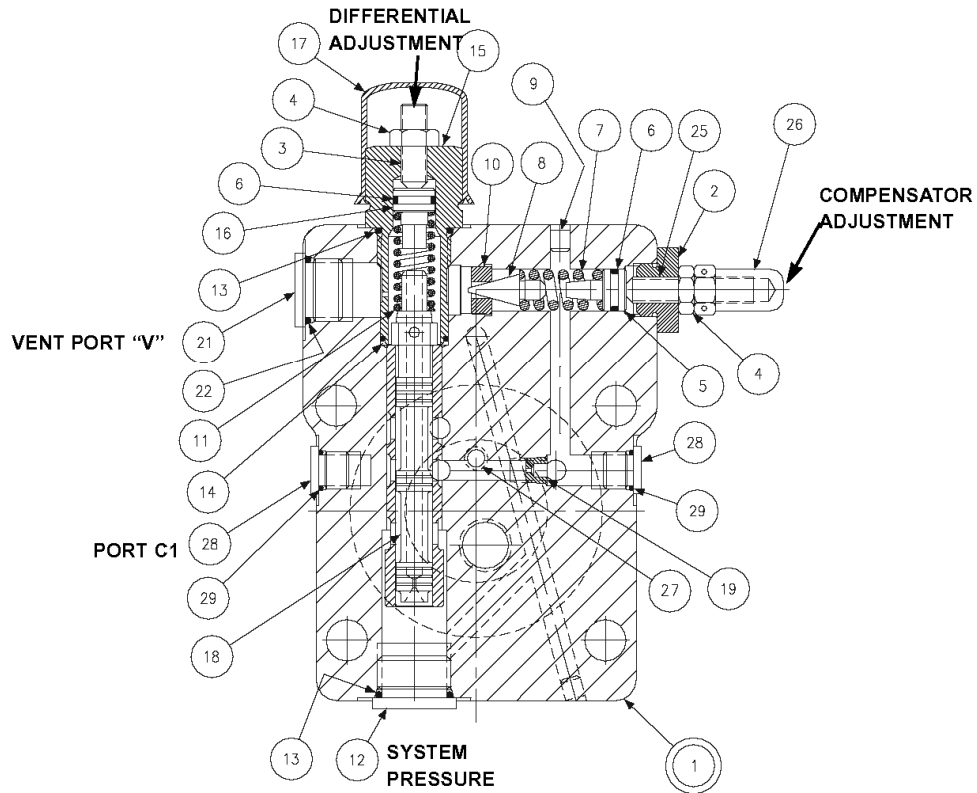
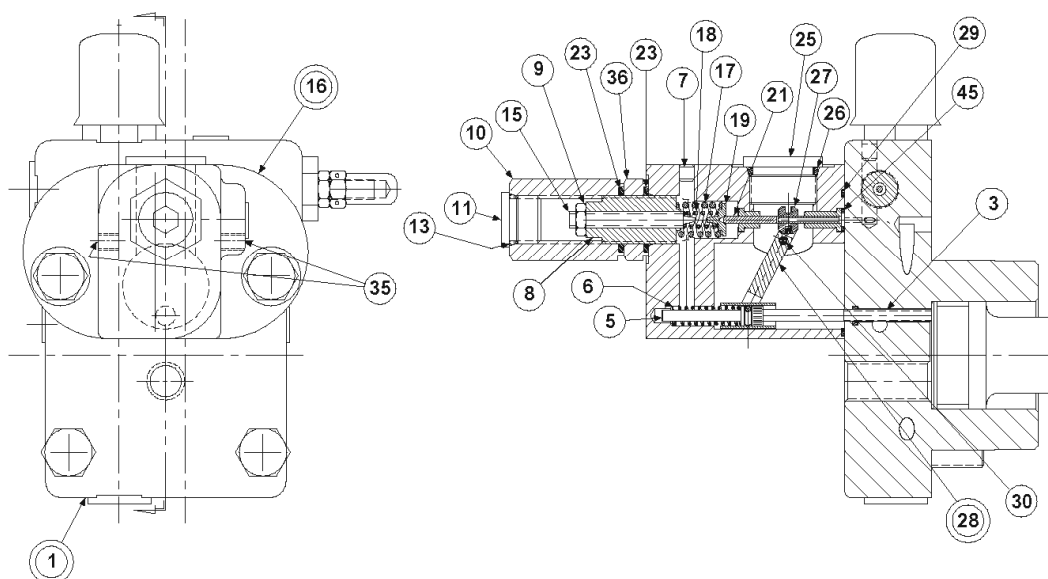

FIGURE 10
FIGURE 11
PARTS LIST FOR FIGURE 10
PARTS LIST FOR FIGURE 11
1. See Figure 11. Remove 2 screws holding torque limiter body (16) to cap assembly (1).
2. Remove all parts from torque limiter body (16) except pin (30) and arm assembly (28). It is not necessary to remove these parts unless broken or worn. Examine parts for wear or damage.
3. Remove screw (3). Examine head for excessive wear, and body for smooth sealing surface with O-ring.
5. Remove cap assembly (1).
6. See Figure 10. Remove plug (15) and attached parts. Remove spring (11) and spool (18).
7. Remove adjusting plug (2) and attached parts. Remove spring (7) and cone (8).
8. Do not remove sleeve in body (1). Sleeve is pressed into cap and finished to size. If sleeve or cap is worn, replace the cap-sleeve assembly (1).
9. Examine seat (10) for wear. Do not remove unless damaged.
1. See Figure 10. Install Avseal plugs (9) and .047", 1,19 mm. orifice (19) in body.
2. Press seat (10) into bore squarely against shoulder in bore.
3. Install spool (18) into bore as shown. Install spring (11) over end of spool. Install O-ring (6) on seal piston (16). Lubricate and install into plug (15). Install plug (15) into cap. Install screw (3), nut (4) and acorn nut (17). Install plug (12), (21) and (28). Torque plugs.
4. Install O-ring (6) on seal piston (5). Lubricate O-ring and install cone (8), spring (7) and seal piston (5) into bore in cap (1), being careful that cone enters seat (10). Install adjusting plug (2), screw (25), nut (4) and acorn nut (26).
5. Carefully install O-ring (27) in the cap.
8. See Figure 11. Apply thread locking compound on threads of screw (3), lubricate the shank, thread through the cap into the control piston, and torque to 5 lb.*ft., 6,8 Nm.
10. Press dowel (30) into body (16), through the link assembly (28), to 1/4", 6,35 mm below surface. Apply hydraulic sealant to threads of screws (35) and install over dowel (30).
11. While sleeve (27) is engaged into dowel on link (28), slide spool (21) into bore of body (16), and through sleeve (27). Spool (21) must move freely and easily at all positions of the link (28).
12. Assemble remaining parts per drawing. While spring retainer is engaging clevis pin (5) under dowel of link (28), slide the other opening of spring retainer over the top of the screw (3). Attach body assembly (16) to cap (1) and torque screws to 75 lb.*ft., 102 Nm.